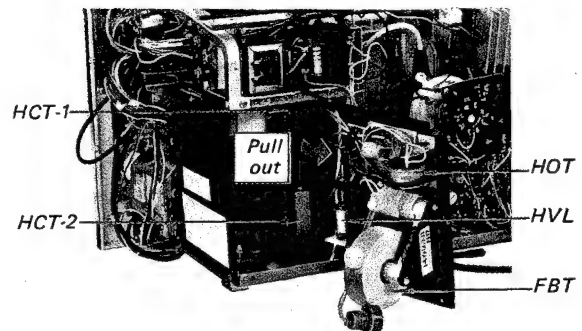

Fig. 2-34.
10. Pull out the rear of high voltage cage as shown in Fig. 2-34.